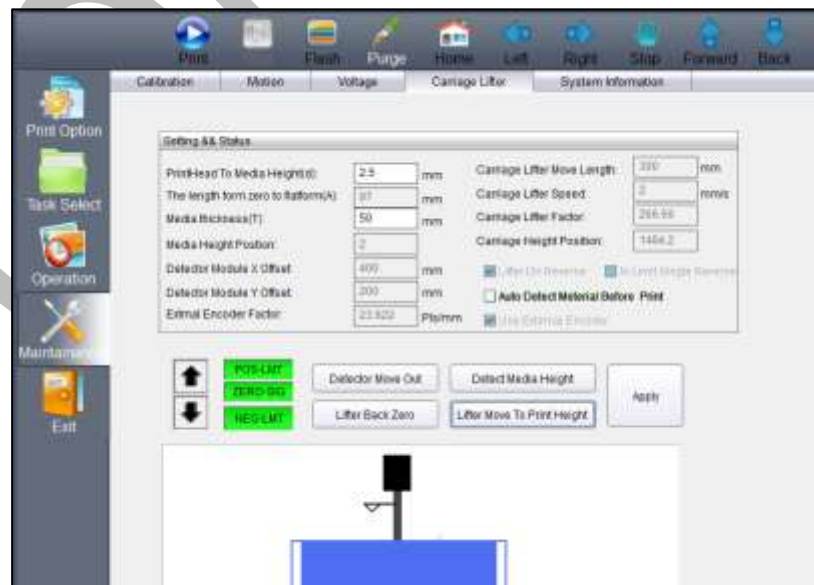

Fig 33: Detecting the Head Height
**Step 1:** Click on the **Maintenance** menu (Refer to Fig 33).
**Step 6:** After this, click on the **Apply** button to apply changes if any (refer to Fig 33).